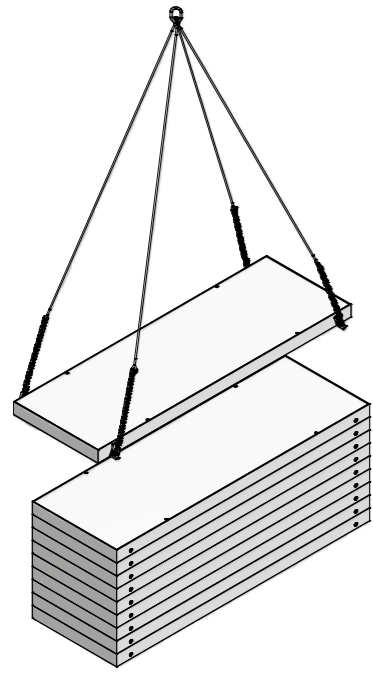

Fig. 7
- Always attach four lifting hooks symmetrically to the same panel (Fig. 7).